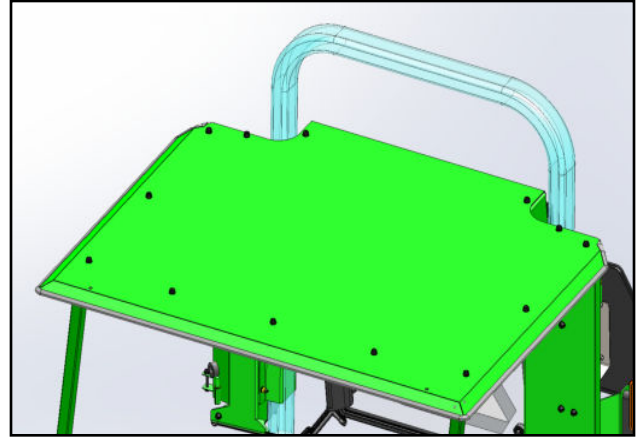

Fig. 10.2 (Install Roof)
**10.2** With a helper, set the Roof on top of the Windshield Support and the Door Headers. All heads of 15 bolts should be on the exterior surface with sealing washers used. Note: also install two additional bolts in the rear flange of the Roof (not shown in fig. 10.2). Leave bolts loose.